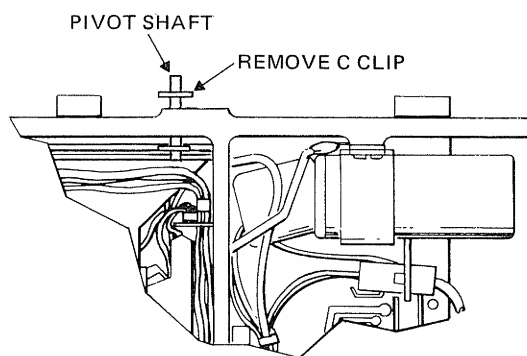

FIGURE 7 CARTRIDGE GUIDE REMOVAL
- b. Remove C-clip from pivot shaft. Reference Figure 7.